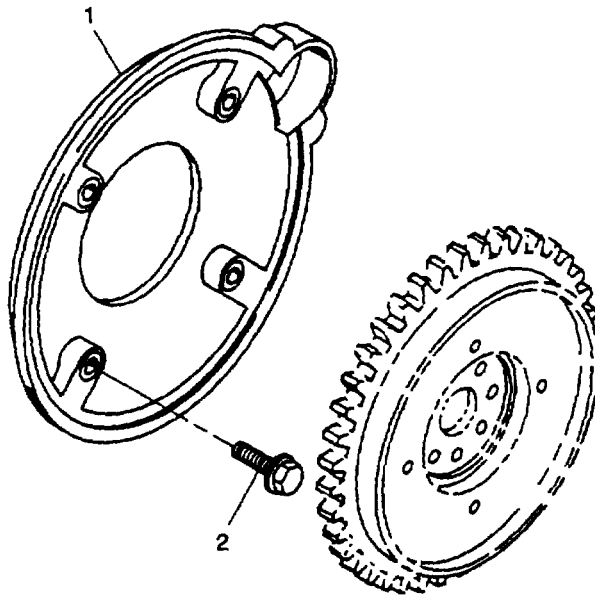

FIGURE 3-38. Flywheel Housing
- c. Scribe a mark on flywheel housing (1, FIGURE 3-38) and crankcase.
- d. Support weight of flywheel housing (1) and remove four capscrews (2) securing flywheel housing; remove housing.
- a. Position flywheel housing (1, FIGURE 3-38) on crankcase aligning scribe marks made during removal and secure with four capscrews (2). Tighten capscrews to 58 ft-lbs (78.6 Nm).